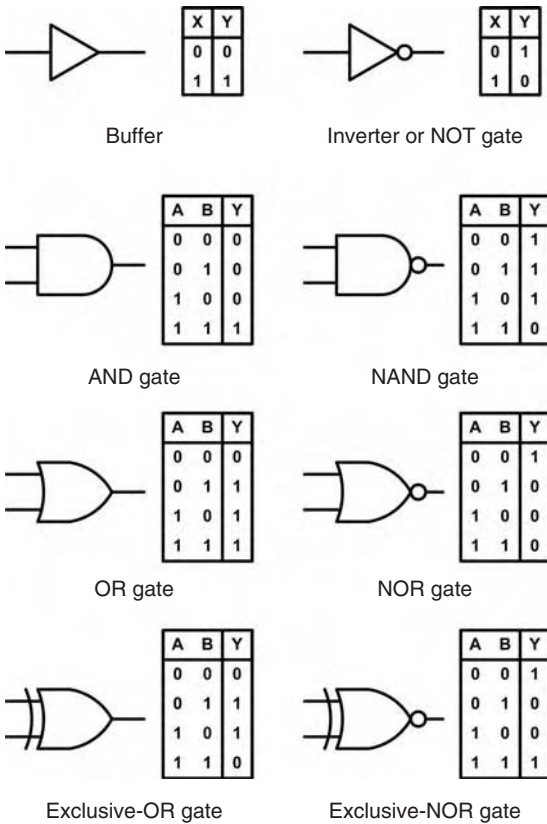

Figure 6.77 Logic gate symbols and truth tables.
The British Standard (BS) and American Standard (MIL/ANSI) symbols for some basic logic gates are shown, together with their truth tables in Figure 6.77. The action of each of the basic logic gates is summarized below. Note that, whilst inverters and buffers each have only one input, exclusive-OR gates have two inputs and the other basic gates (AND, OR, NAND and NOR) are commonly available with up to eight inputs.